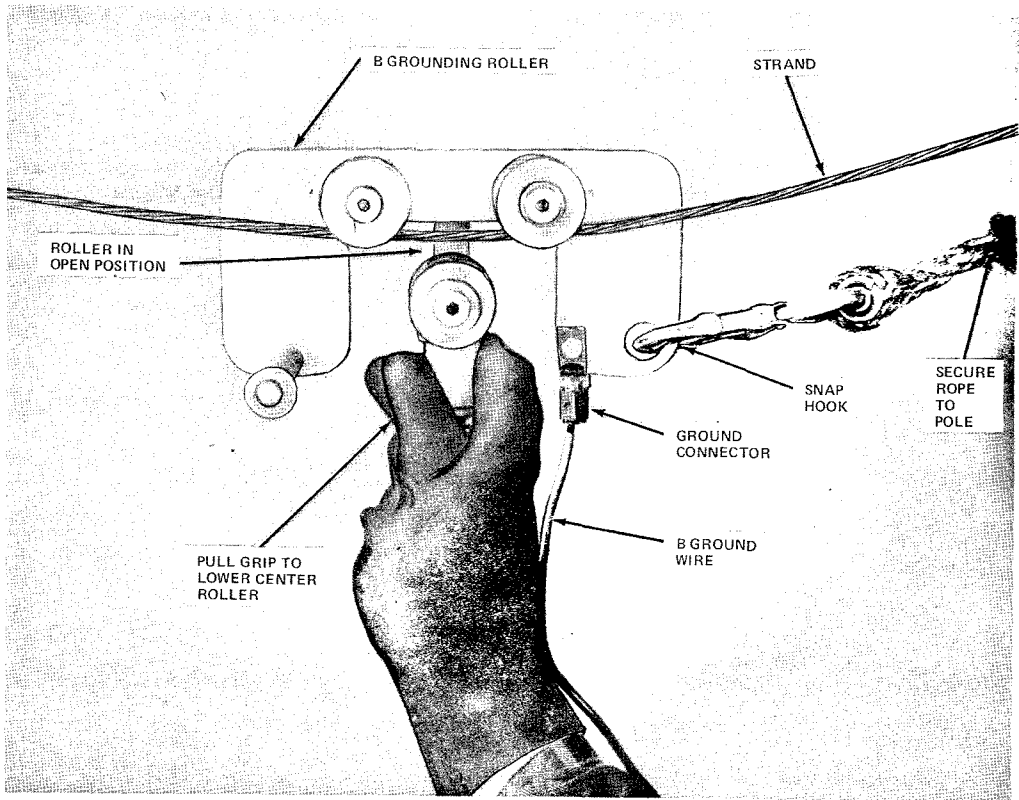

Fig. 3—Installing B Grounding Roller
- (b) Tie the rope to the pole and attach the snap hook to one of the frame holes of the roller as shown in Fig. 3 and 4.
- (b) Attach one end of the B ground wire to the connector (see Fig. 3) of the grounding roller.
- (b) Compress the tensioning spring, forcing the steel shaft and center roller to the open position as shown in Fig. 3.